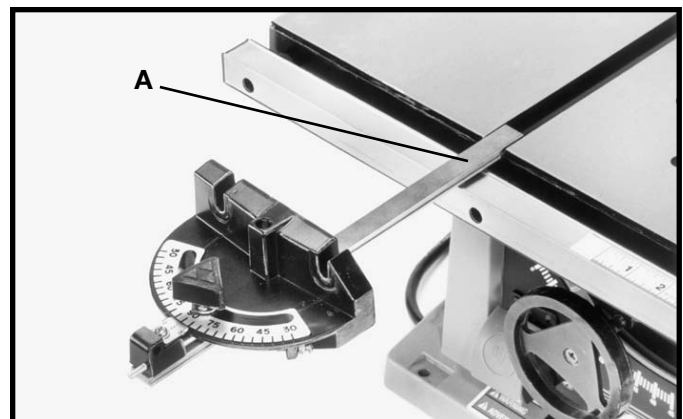

Fig. 25
The miter gage is shipped completely assembled and is supplied with a T-slot miter gage bar (A) Fig. 25, that is inserted into either one of the two T-slotted miter gage grooves located in the table top, as shown. The T-slot miter gage prevents the miter gage from falling when it is extended out beyond the front of the table when cross-cutting extra wide workpieces.